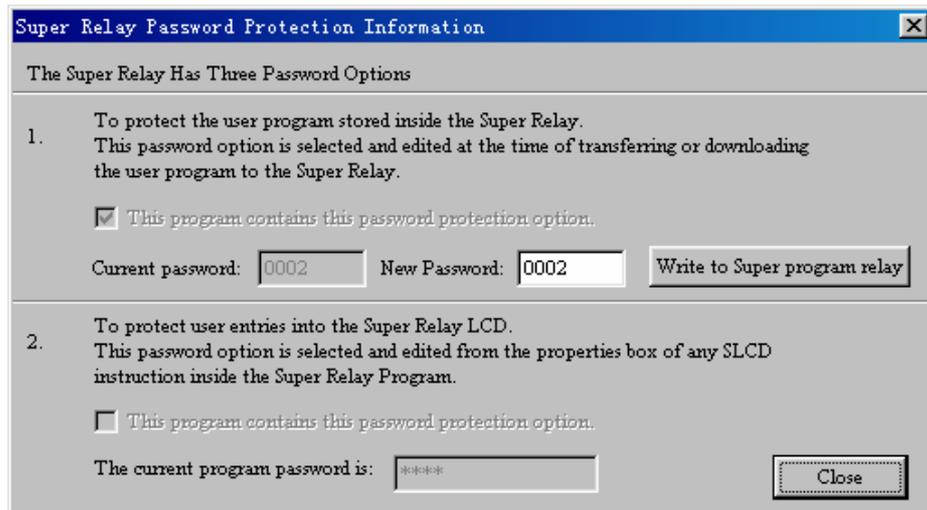

Fig 4.22 Modify Password
- a. Click button “” with left button of mouse, dialog box shown as fig 4.22 appears: